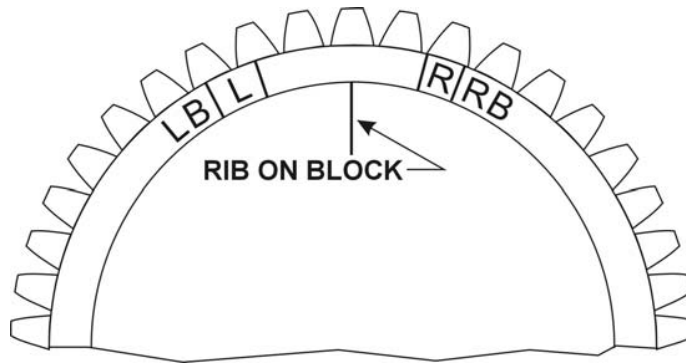

Figure 5-2. Timing Marks - 6 Cyl. -1200 Series
- (1) Remove spark plug from No. 1 cylinder and place a thumb over the spark plug hole. Rotate the crankshaft in direction of normal rotation until the compression stroke is reached, this is indicated by a positive pressure inside the cylinder tending to push the thumb off the spark plug hole. Continue rotating the crankshaft until the advance timing mark on the front face of the starter ring gear is in alignment with the small hole located at the two o'clock position on the front face of the starter housing. (Ring gear may be marked at 20°, 23°, and 25°. Consult specifications for correct timing mark for your installation.) At this point, the engine is ready for assembly of the magnetos.
- (2) *Single Magneto* – Remove the inspection plugs from both magnetos and turn the drive shaft in direction of normal rotation until (-1200 series) the application timing mark on the distributor gear is approximately aligned with the mark on the distributor block. See Figure 5-2. Being sure the gear does not move from this position, install gaskets and magnetos on the engine. Note that an adapter is used with all magnetos. Secure with (clamps on -1200 series) washers and nuts; tighten only finger tight.
- (3) Using a battery powered timing light, attach the positive lead to a suitable terminal connected to the switch terminal of the magneto and the negative lead to any unpainted portion of the engine. Rotate the magneto in its mounting flange to a point where the light comes on, then slowly turn it in the opposite direction until the light goes out. Bring the magneto back slowly until the light just comes on. Repeat this with the second magneto.
- (4) Back off the crankshaft a few degrees, the timing light should go out. Bring the crankshaft slowly back in direction of normal rotation until the timing mark and the hole in the starter housings are in alignment. At this point, both lights should go on simultaneously. Tighten nuts to specified torque.
- (5) *Dual Magnetos* – Place the engine in the No. 1 advance firing position as directed in paragraph 1b(1).
- (6) Install the magneto-to-engine gasket on the magneto flange.